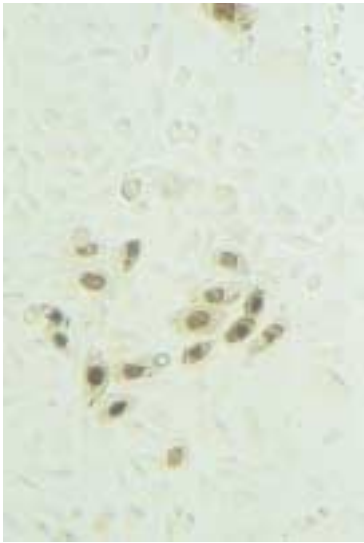

Figure 29. Detection of CAT-expressing transfected cells with the CAT Staining Set.
3. Under a light microscope, individual cells expressing CAT or β -Gal activity are distinctly stained, and no background signal is observed (Figures 29,30).